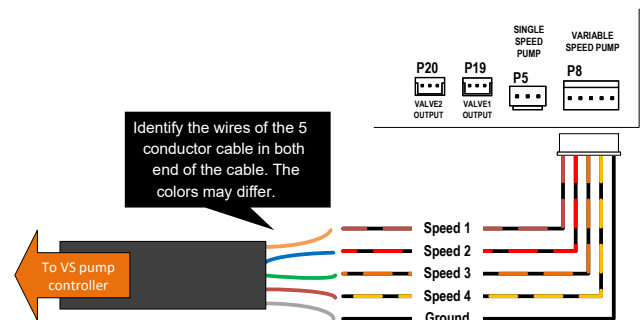

Figure 145. 5-Conductor Cable Wiring
2. Inside the heater's control box, use the harness adapter labeled "Pump speed selector" that comes with the accessories bag to connect the 5-conductor cable to the control board terminal labeled "VAR PUMP" [P8]. The adapter can supply 4 digital outputs at 30VDC and a ground signal. Make sure to identify the wires in both ends of the 5-conductor cable. Refer to Figure 145 for guidance.